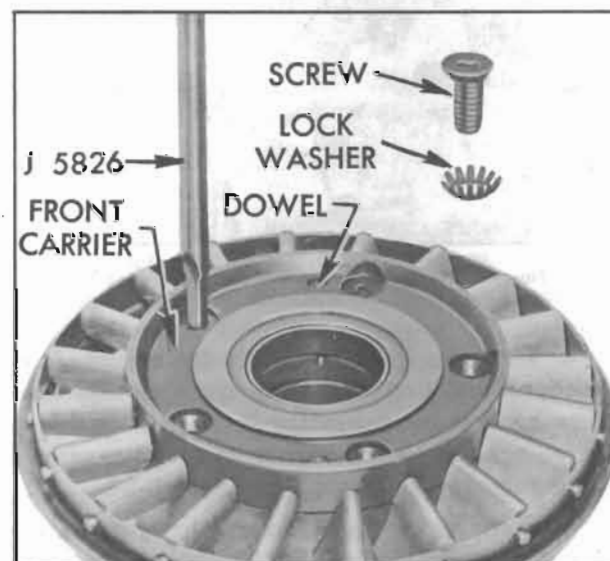

Figure 5-45—Removing Front Carrier Screws
3. Use Screwdriver J 5826 to remove the stator blade front carrier screws and lock-washers, then remove front carrier which is also held to rear carrier by two dowels. See Figure 5-45.